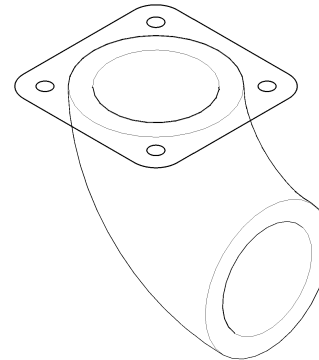

Figure 3-129 Location of the sketch
13. Change the view to **SE Isometric**. The model after drawing the sketch and turning off the dimension is shown in Figure 3-129.